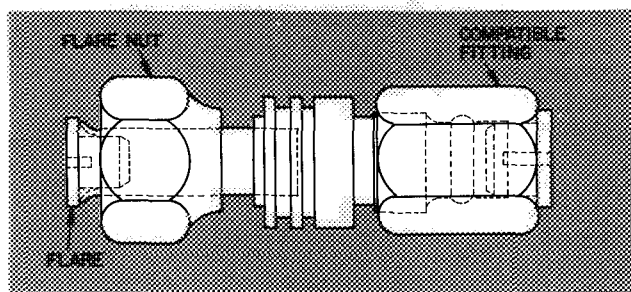

Fig. 5 – Accessory Coupler
Step 6 – Connect Refrigerant Lines to fittings on unit suction and liquid service valves (Fig. 1). *Liquid service valve has flare fitting; suction service valve has Compatible Fitting.* Make suction line connection first. Slide flare nut on liquid line, then flare and connect liquid line. (Do not disassemble AccuRater.) Unit Compatible Fitting permits mechanical (quick-connect) or sweat connection as described below. It is not necessary to flare system liquid line if an accessory flare to Compatible Fitting coupler is used for liquid line connection. See Accessory Coupler (Fig. 5).
ACCESSORY FLARE TO COMPATIBLE COUPLER is shown in Fig. 5. Attach flare nut on coupler to flare fitting on unit liquid service valve. Connect liquid line to Compatible Fitting using mechanical or sweat connection. When mechanical connection is made, use 2 wrenches when tightening Compatible Fitting nut – one to hold coupler and one to tighten nut. Liquid line must be flared if coupler is not used.